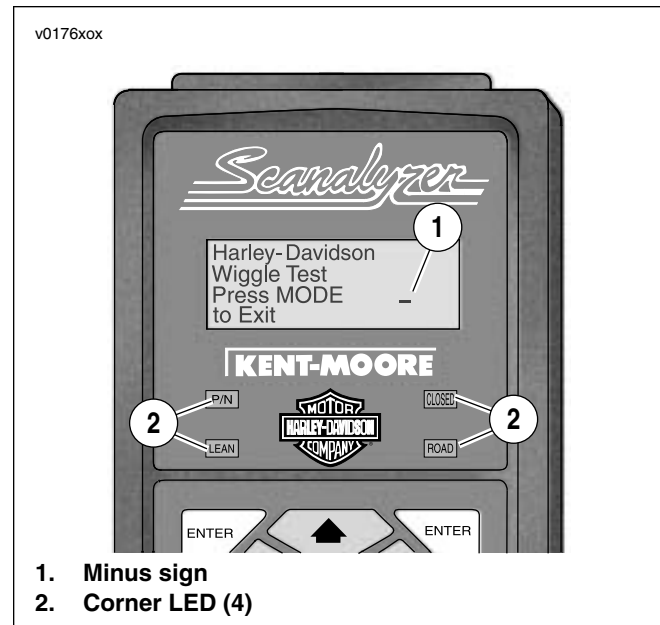

Figure 4-18. Wiggle Test Indicators
4. Shake or wiggle harness to detect intermittents. If intermittents are present the Scanalyzer will beep, light the four corner LEDs and display a minus sign when a current trouble code is detected. See Figure 4-18.